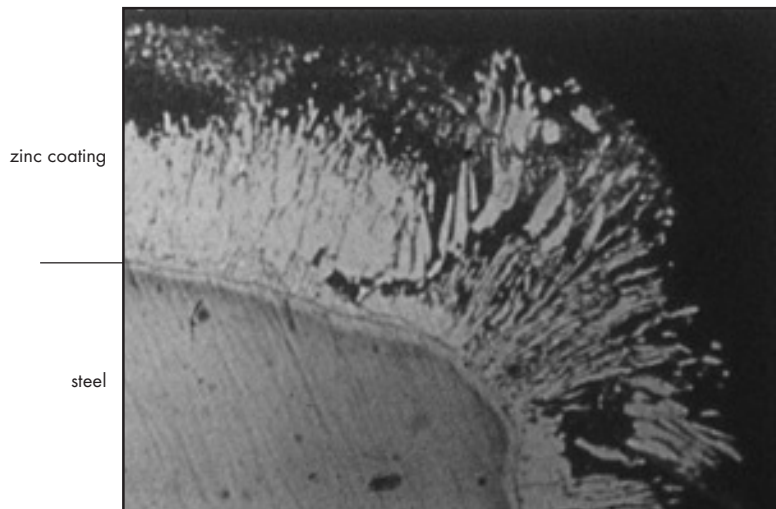

Figure 13. Micrograph showing the slightly thicker hot dip galvanized coating at corners.
- **Uniform protection.** All surfaces of a hot dip galvanized article are protected both internally and externally, including recesses, sharp corners and areas which are inaccessible for the application of other coating methods (figure 12). The coating is thicker over sharp corners and edges than on flat surfaces (figures 13 and 14). Thickness, coating adhesion and uniformity are features of the process. No other coating applied onto a structure or fabrication can provide similar uniform protection.